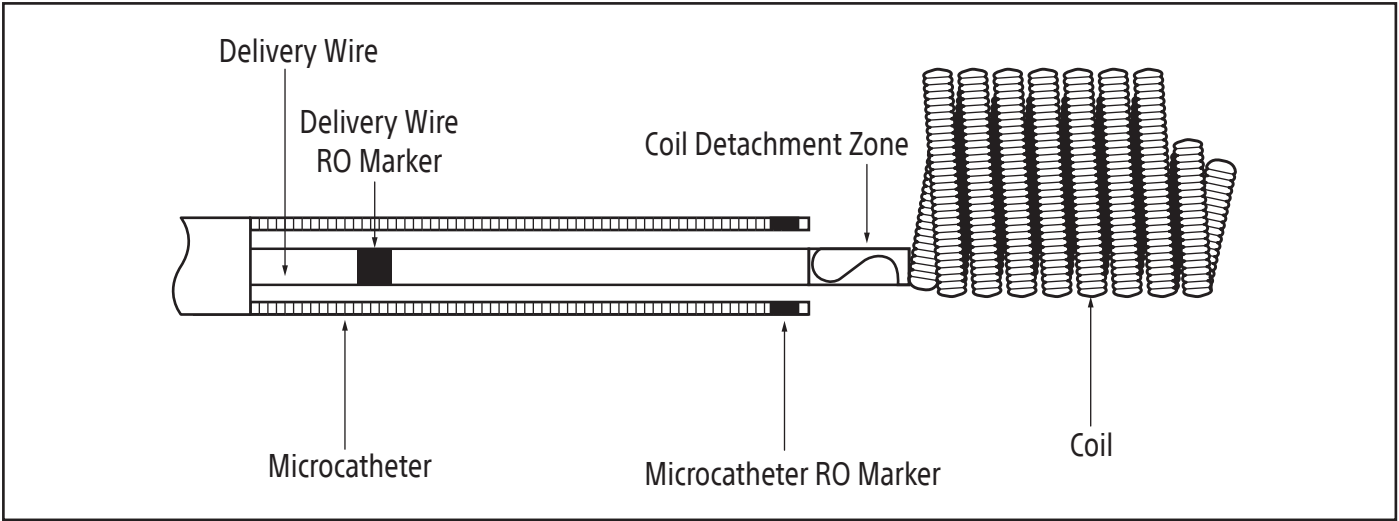

Figure 5. Pre-Detachment Positioning of EMBOLD Fibered Detachable Coil
- Once satisfactory coil positioning has been achieved, maneuver the EMBOLD Fibered Detachable Coil System under fluoroscopy until the coil detachment zone is completely beyond the microcatheter RO tip marker (Figure 5). This ensures that the microcatheter will not interfere with coupler separation during coil detachment.